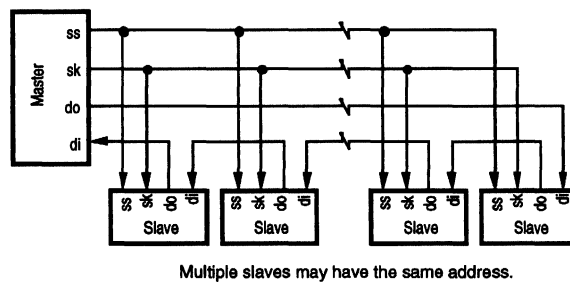

Figure 14. SPI System Configuration (Z86C06 Only)
SPI Operation (Z86C06 only). The SPI is used in one of two modes: either as system slave, or as system master. Several of the possible system configurations are shown in Figure 14. In the slave mode, data transfer starts when the slave select (SS) pin goes active. Data is transferred into the slave's SPI Shift Register through the DI pin, which has the same address as the RxBUF Register. After a byte of data has been received by the SPI Shift Register, a Receive Character Available (RCA/IRQ3) flag and interrupt is generated. The next byte of data will be received at this time. The RxBUF Register must be cleared, or a Receive Character Overrun (RxCharOverrun) flag will be set in the SCON Register, and the data in the RxBUF Register will be overwritten. When the communication between the master and slave is complete, the SS goes inactive.